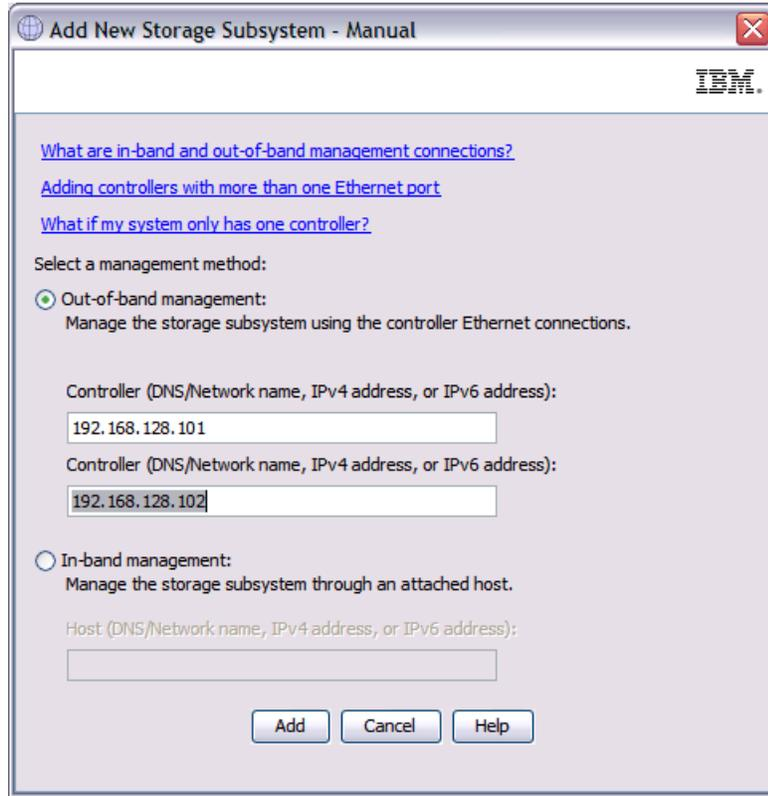

Figure 3-1 Add new storage subsystem manually
1. Add your DS5000 storage subsystem to the DS Storage Manager Client. To add a new system to the SM Client Enterprise Management Window (EMW), click **Edit** → **Add Storage Subsystem...** and the Add New System manual window opens as shown in Figure 3-1. You need to enter the controller IP addresses. Here we use default IPs.